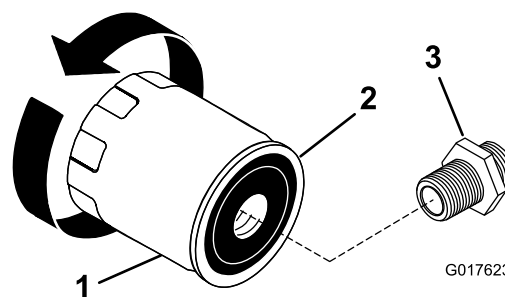

Figure 19
2. Remove the old oil filter and wipe the filter adapter (Figure 19) gasket surface.
3. Apply a thin coat of new oil to the rubber gasket on the new oil filter (Figure 19).
5. Turn the oil filter clockwise until the rubber gasket contacts the filter adapter, then tighten the oil filter an additional 1/2 to 3/4 turn (Figure 19).